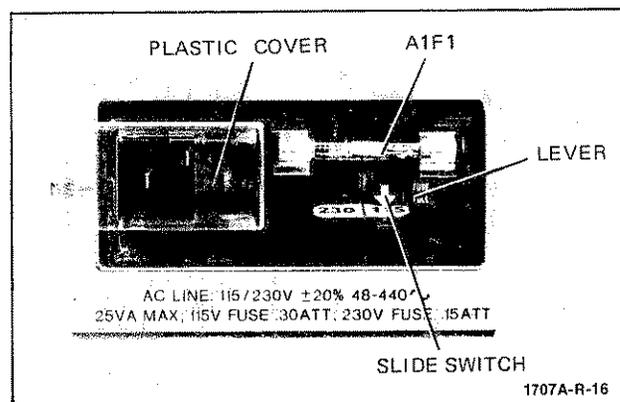

Figure 2-1. Rear Panel Power Module
2-9. A slide switch inside the rear panel power module (figure 2-1), on the rear panel, determines 115- or 230-volt operation. To check or change the position of this slide switch, proceed as follows:
- b. Move plastic cover to left (figure 2-1).
d. Check to see that slide switch (figure 2-1) is to right for 115V operation.